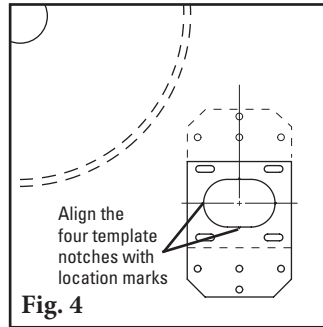

Fig. 4
6. **Locate offset bracket position.** To locate the position of the offset bracket, position offset bracket template with the large hole notches aligned with the layout lines on the chute wall (Fig. 4). The template can be used with the bracket holes either below or above the Y mark.